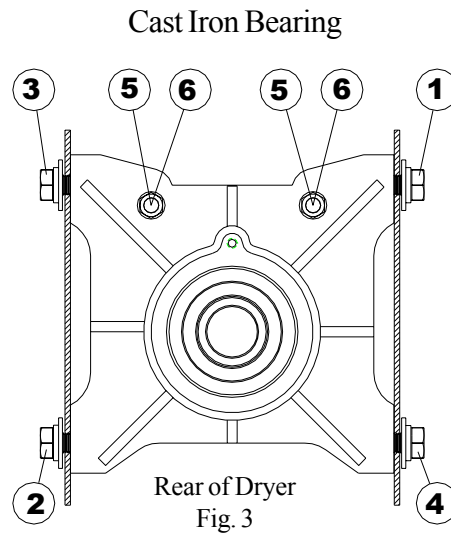

Fig. 3
1. Loosen the 4 cast iron bearing bolts or gear reducer (1, 2, 3 & 4) on rear of dryer, and 2 adjusting bolts #5, on gear reducer housing. (Fig. 3).